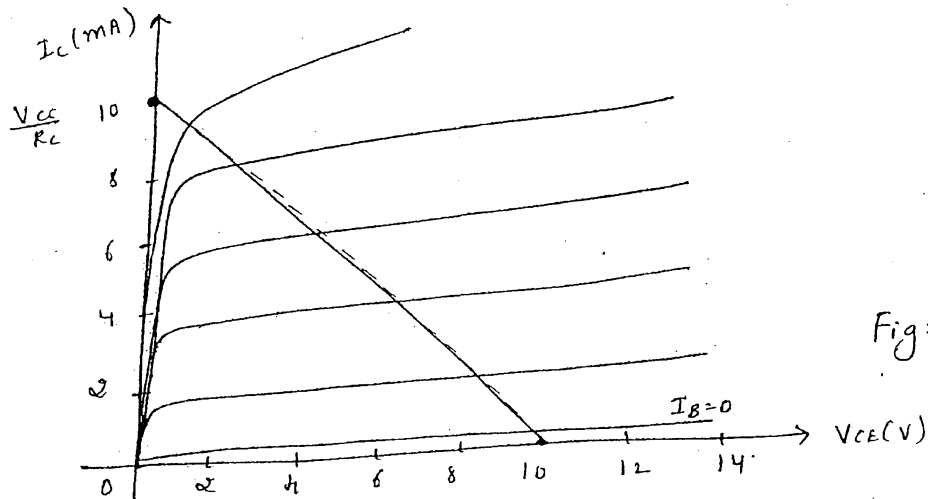

Fig:3
* The dc load line and output characteristics when $V_{CC} = 10\text{ V}$ and $R_C = 1\text{ k}\Omega$ are shown in fig:3